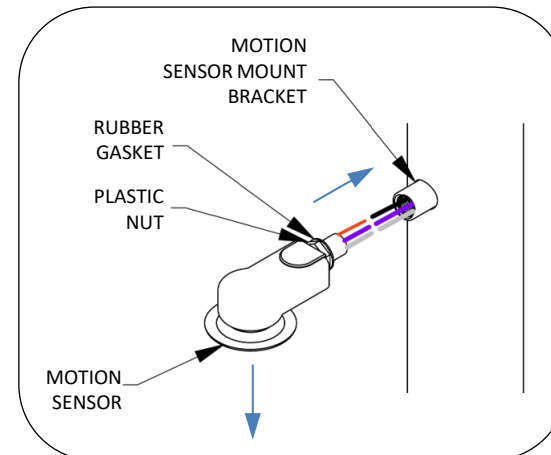

FIG.12– INSTALL OPTIONAL MOTION SENSOR
1. Run line-in voltage wiring inside pole base plate, extending out through the motion sensor mount bracket, see Fig. 12.
4. Thread the occupancy sensor onto the mount bracket until snug, with the sensor aligned with base of the pole, see Fig. 12.